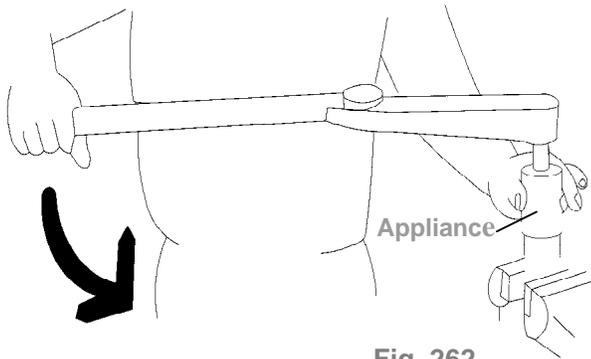

Fig. 262
(3) Pulse Unit Disassembly:
- ❶ Fix the pulse unit by a vise. Use the appliance (see Table 34) to loosen the lock nut on the pulse unit, Fig. 262